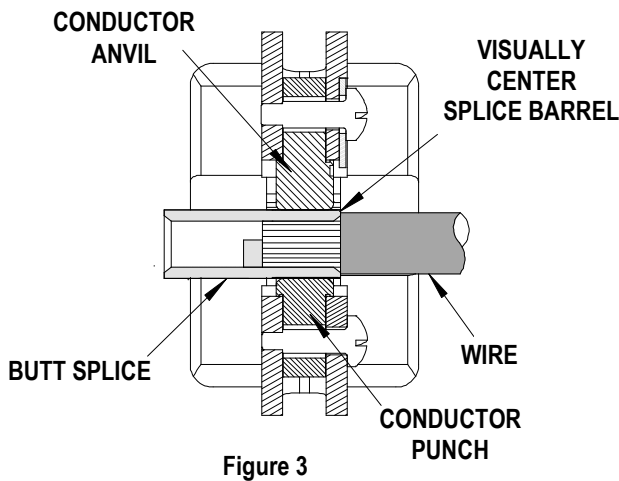

Figure 3
3. When crimping butt splices, insert the wire into the butt splice. Position the splice and the wire into the nest with conductor crimp on the conductor barrel of the splice. The splice should be approximately centered inside the tooling nests. See Figure 3. Cycle the tool.